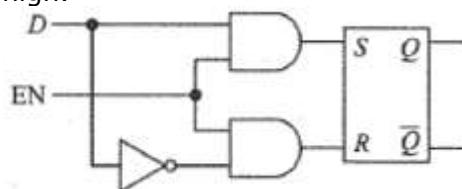

Figure 8.14: A D Flip-flop
- Here is how it works (Fig 8.14):